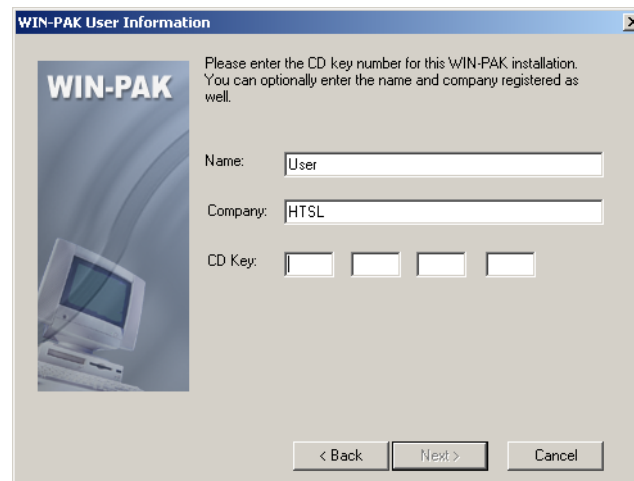

Figure 2-9 WIN-PAK User Information
5. Click **Next**. *Figure 2-9* appears.